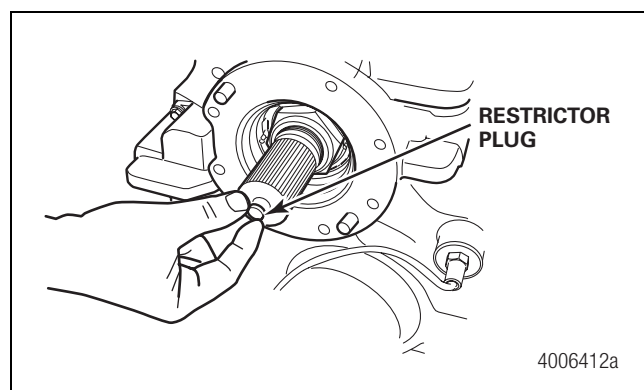

Figure 13
8. Install the supplied restrictor plug in the end of the input shaft. Tighten it to a minimum of 15 lb-ft (20 N•m). Ensure the restrictor plug is the correct plug supplied from the kit with an 0.090-inch (2.29 mm) orifice. Figure 13.